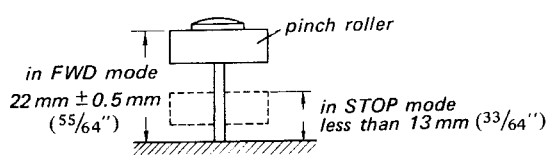

Fig. 11-9 Pinch roller height adjustment
(7) Loosen the pinch roller height adjusting screw shown in Fig. 12-1 and adjust by moving the shaft upwards or downwards to obtain the values specified in Fig. 11-9.